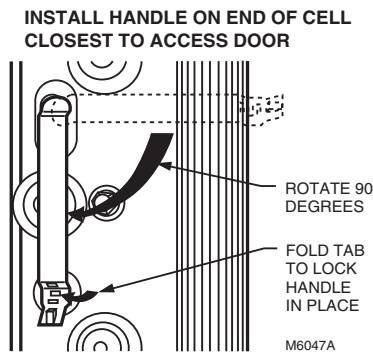

Fig. 7. Installing cell handle.
1. Hold the handle while inserting the solid tab on the back of the handle into the slot in the cell. Turn the handle 90 degrees clockwise to align the divided tab with the square hole. See Fig. 7.